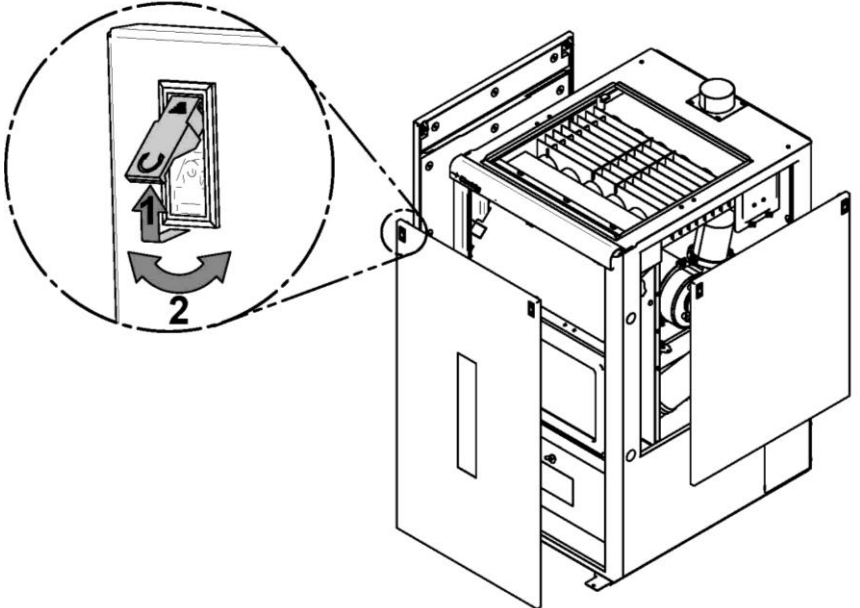

Figure 1
**Step 1:** The first step consists of removing the front and side panels from the furnace. To do so, use the retractable handles located on each of the panels as illustrated in **Figure 1**.